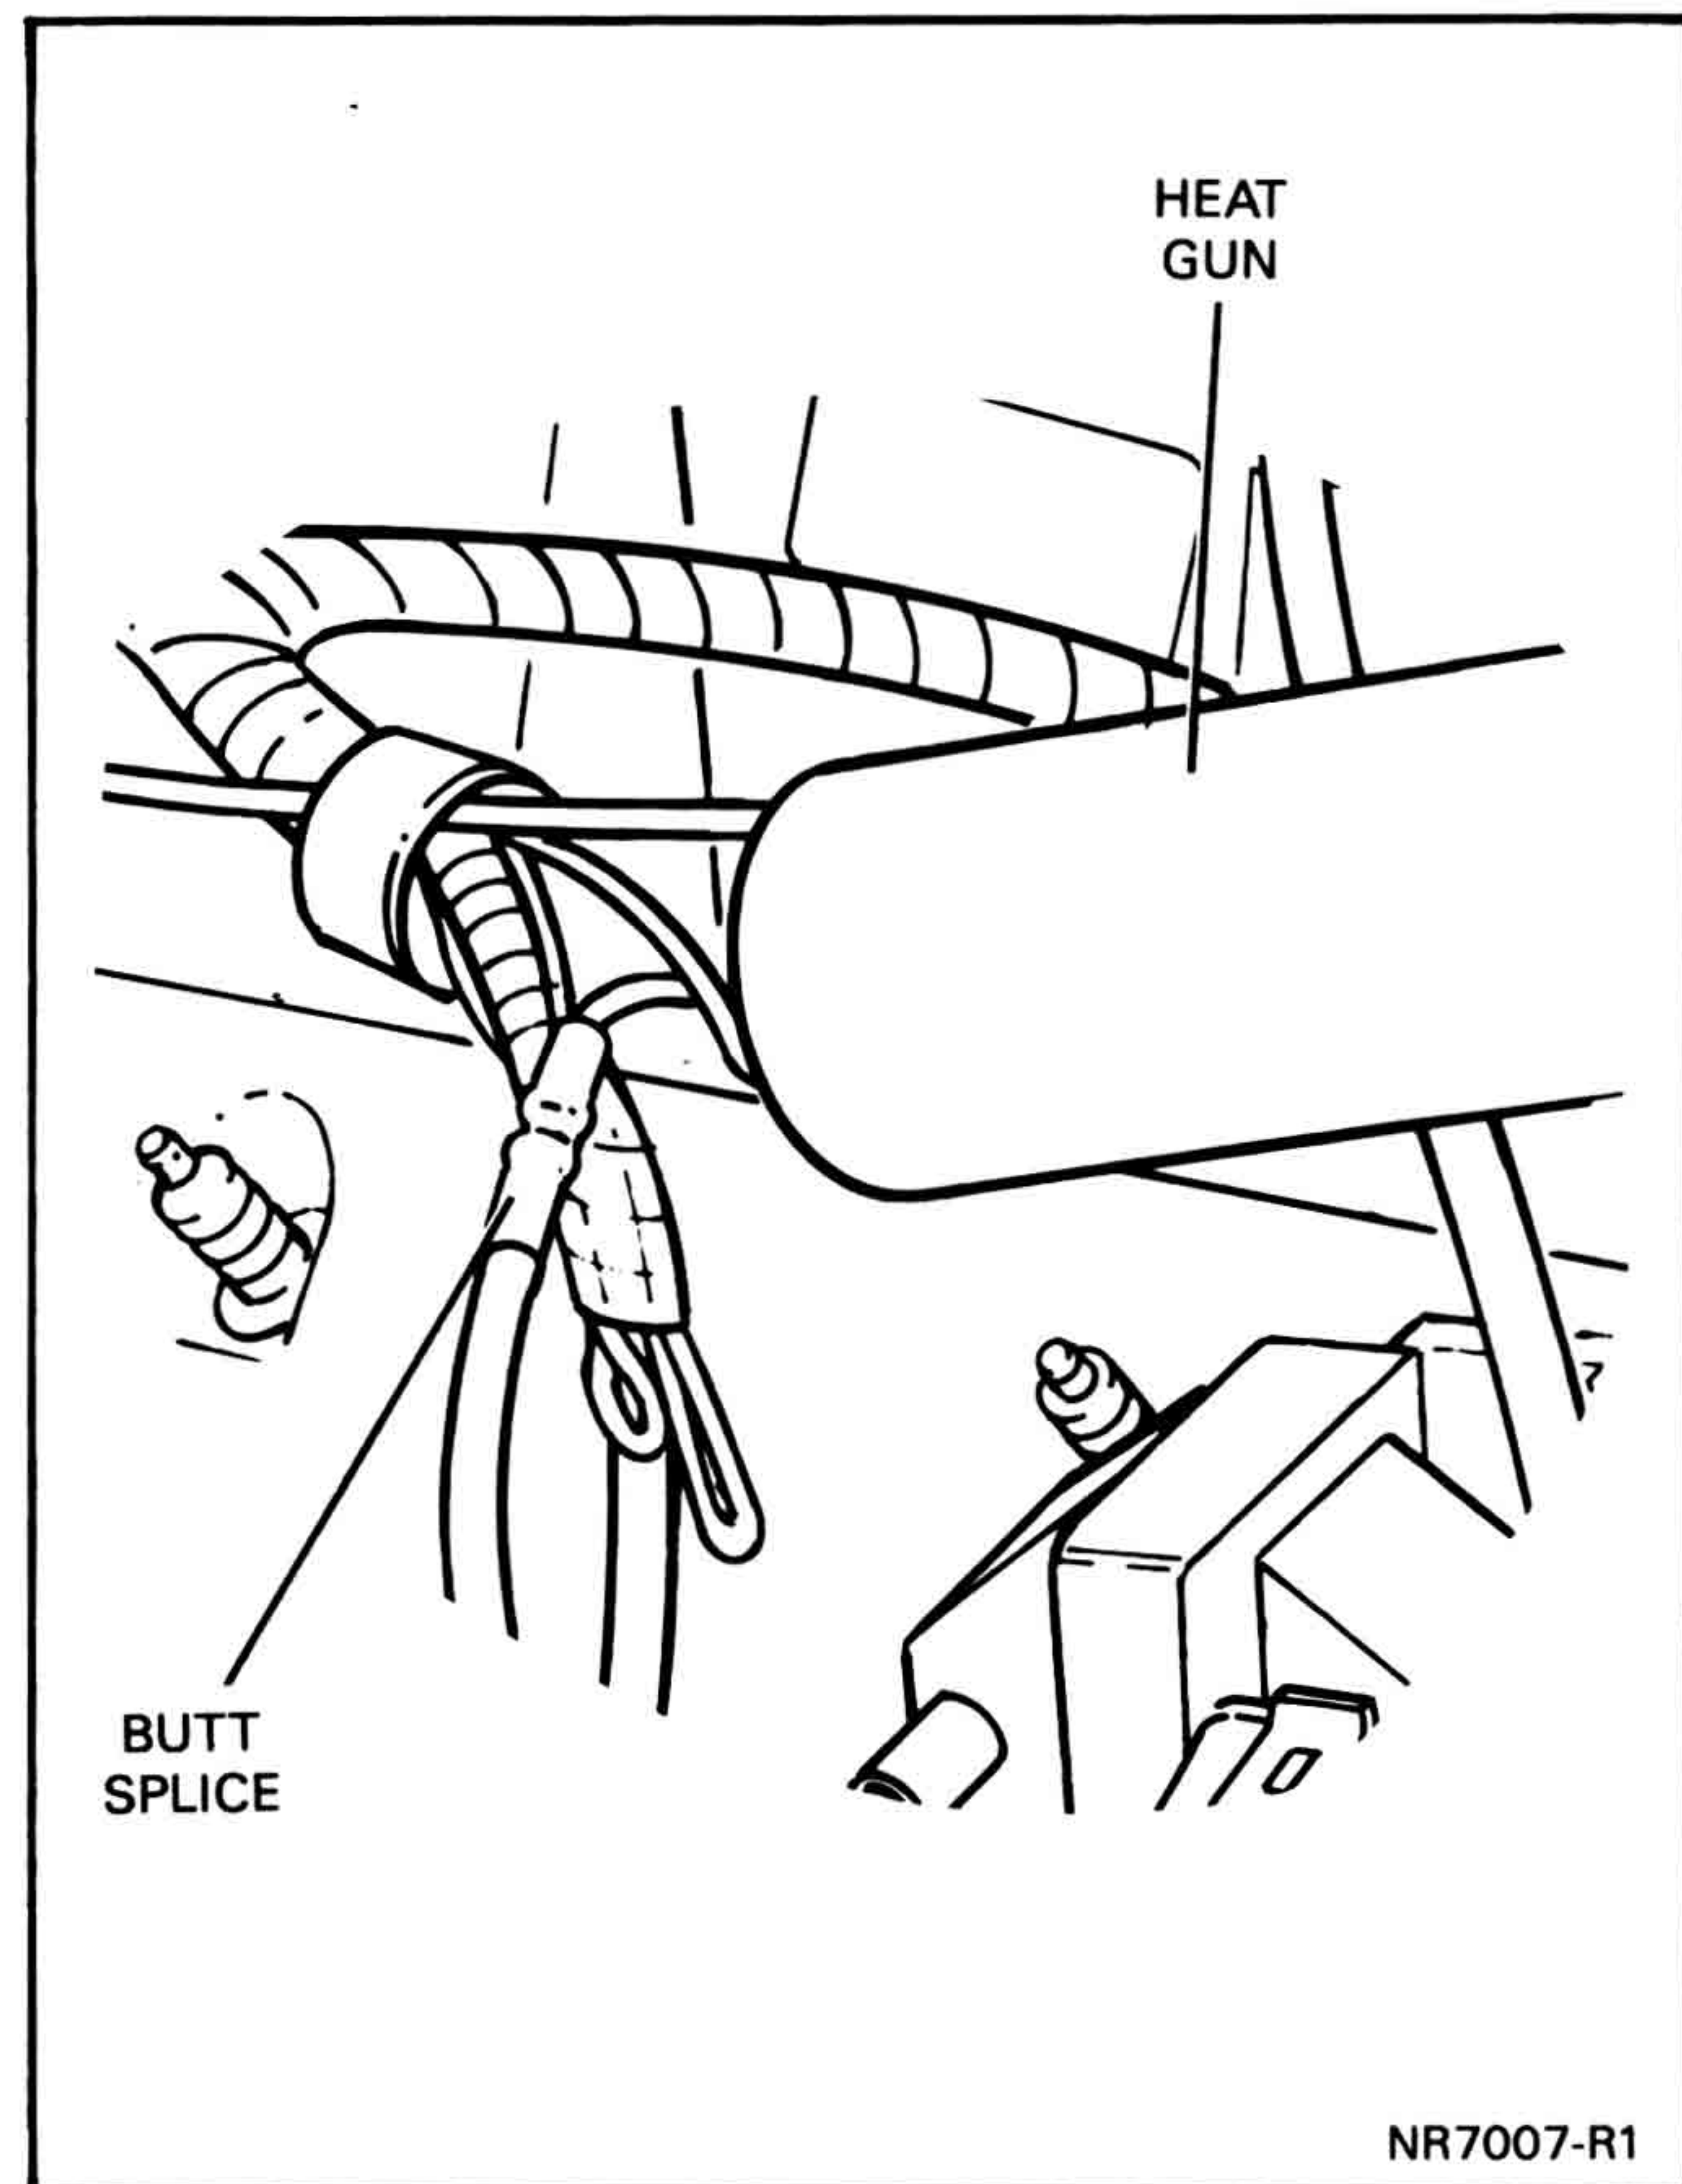

Figure 7 — Making Typical Butt Splice
- The gray connector lead is the tachometer lead and is to be spliced to the old tach lead detached during step 6. Determine suitable routing and length for the leads. Use suitable butt splice connector provided in kit to splice wires together (see figure 7). Strip end of each wire to be joined 1/4" from end. Insert stripped end of one wire into connec-